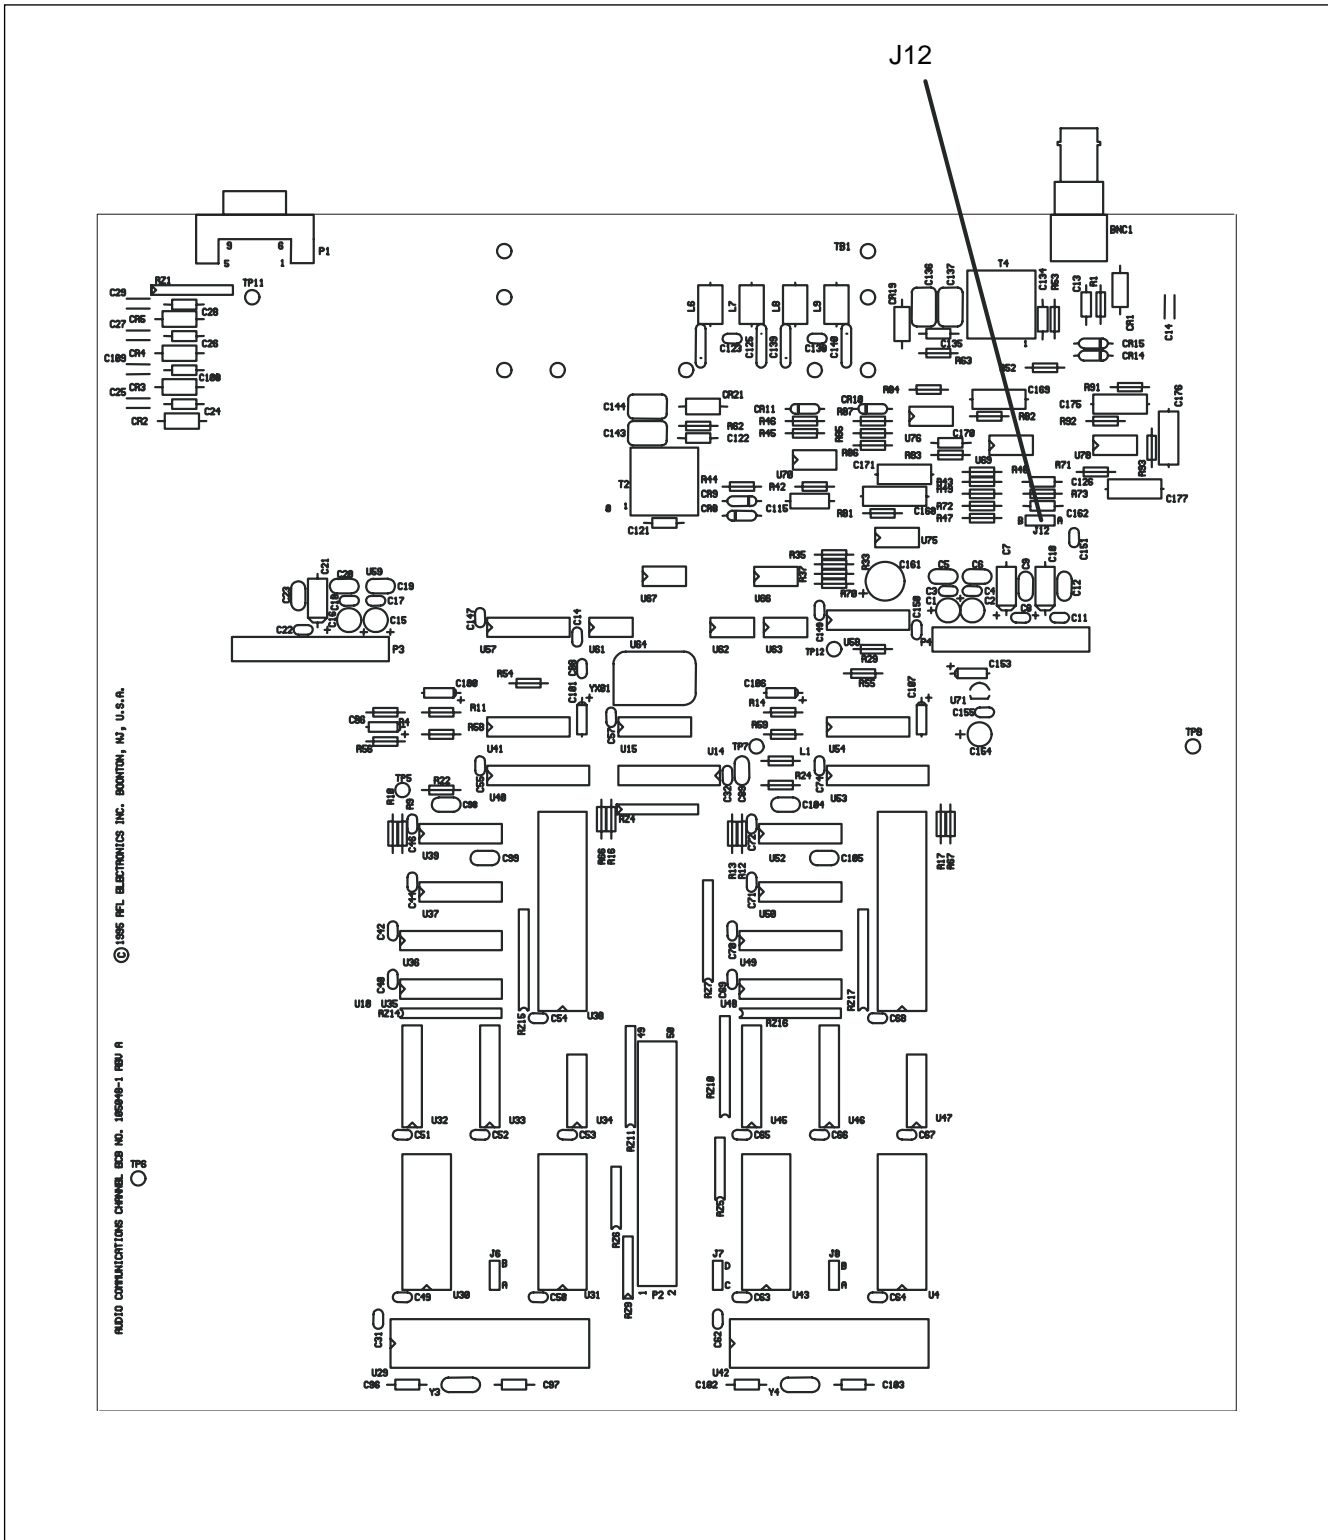
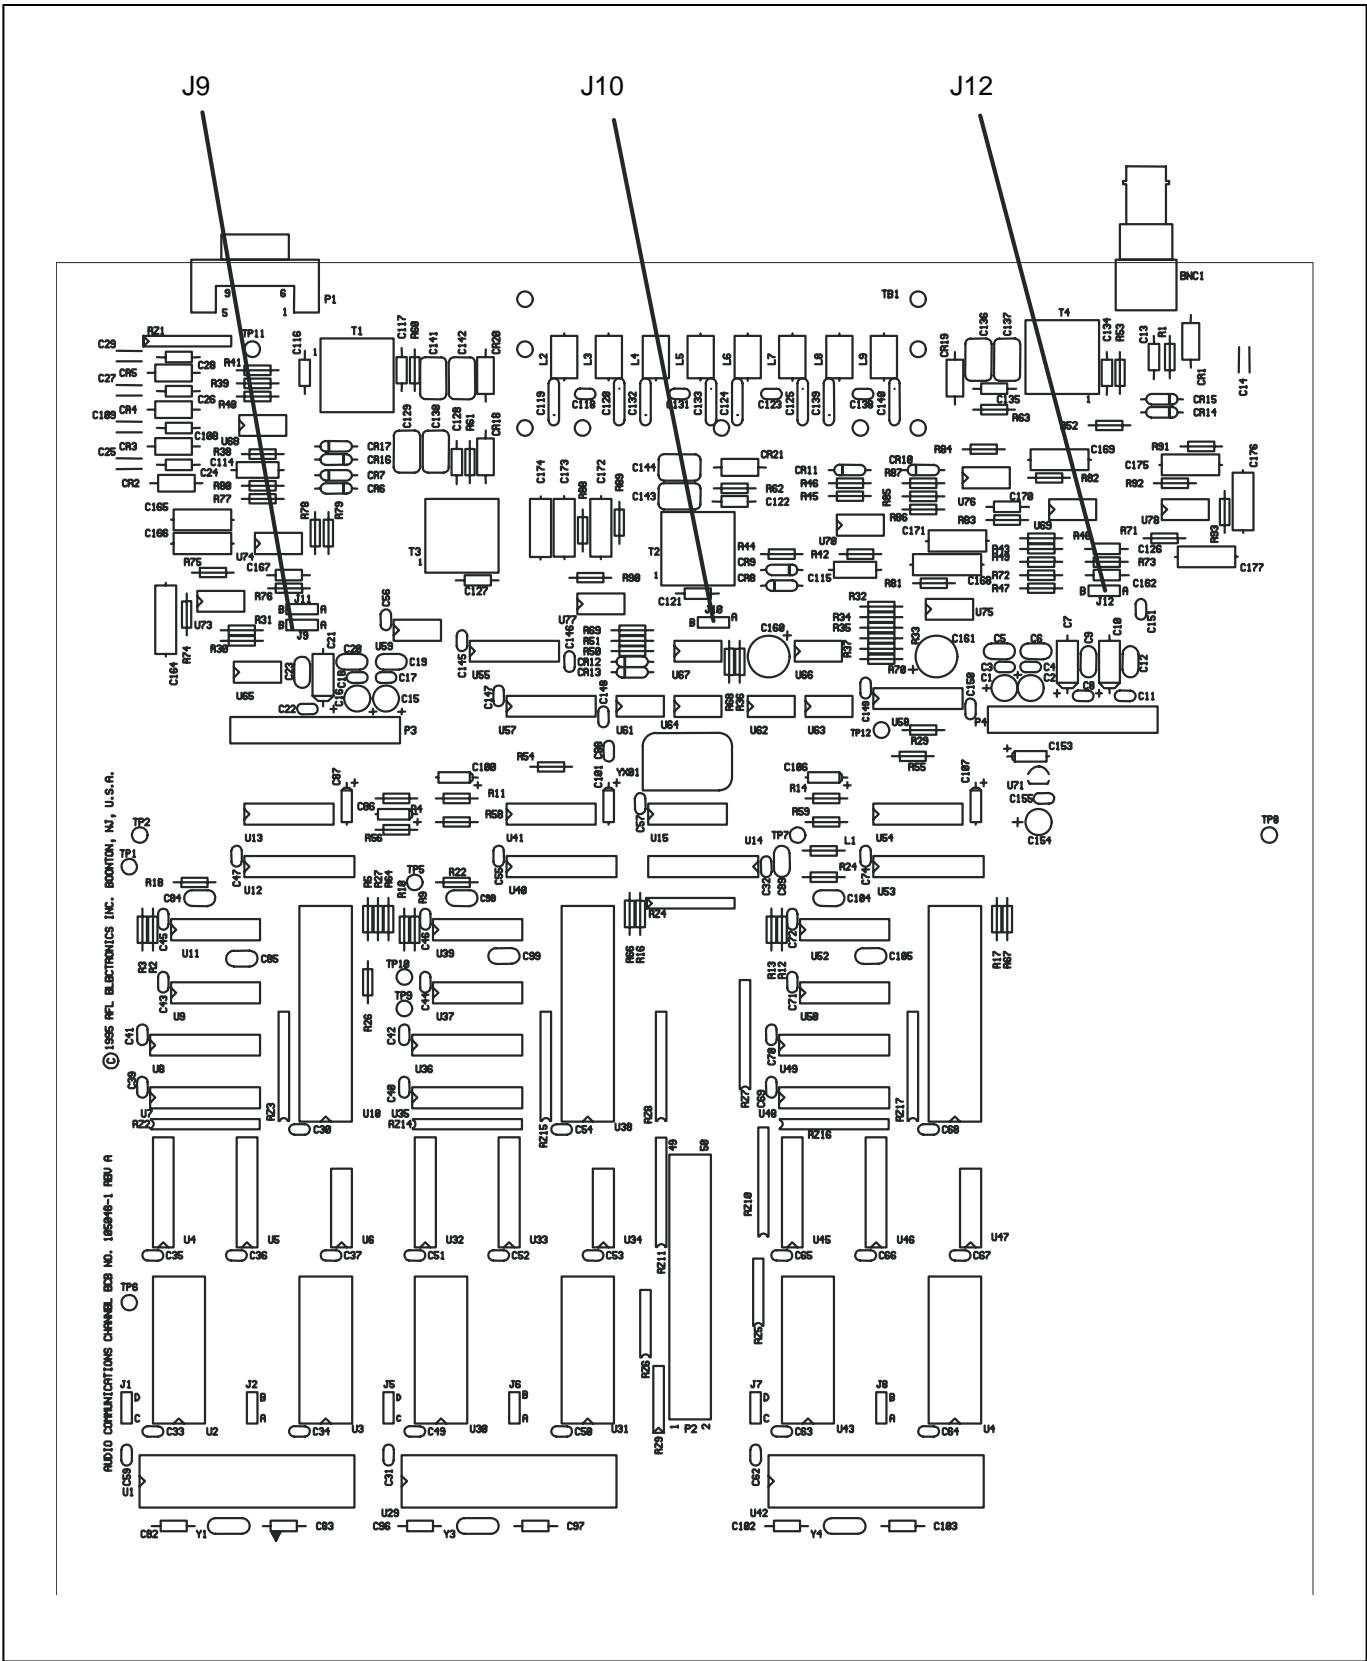
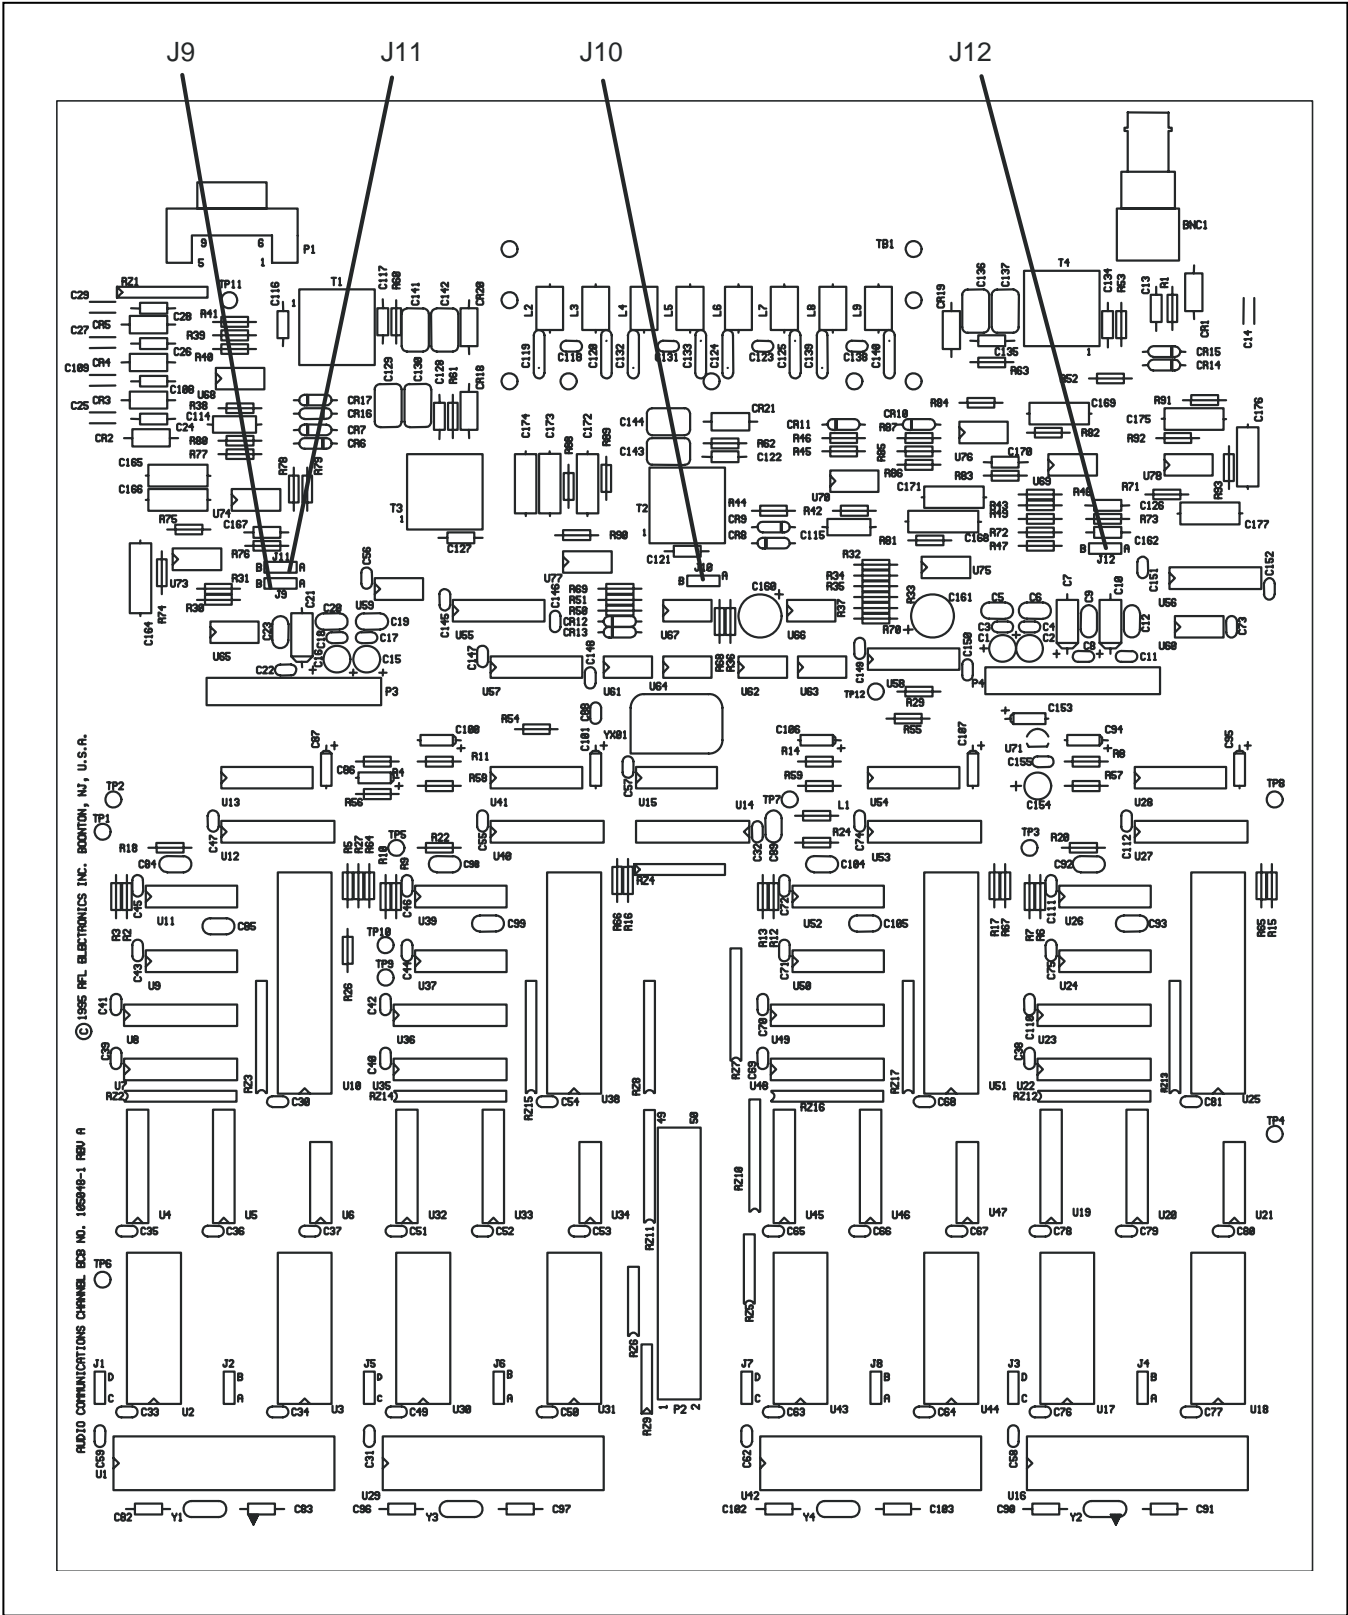

Figure 3-16. Location of jumper on the two-tone narrow band Audio Communications Module
Figure 3-17. Location of jumpers on the three-tone narrow band Audio Communications Module
Figure 3-18. Location of jumpers on the four-tone narrow band Audio Communications Module
There are three versions of the narrow band Audio Communications Module. Each version uses the same basic printed circuit board but only certain portions of each board are populated with components. The two-tone version of the module has one programmable jumper as shown in Figure 3-16. The three-tone version of the module has three programmable jumpers as shown in Figure 3-17. The four-tone version of the module has four programmable jumpers as shown in Figure 3-18. Each version can be supplied with screw type terminal blocks or plug-in compression type terminal blocks. Refer to Table 3-6 for additional information.
* Parameter 061 as shown in Figure 5-1 must be set to match the J10 jumper setting on the Audio Communications module (See Figures 3-17 or 3-18 for location). If jumper J10 is in position A, set Parameter 061 to “A”. If jumper J10 is in position B, set Parameter 061 to “B”. If the audio board has only two tones, jumper J10 cannot be set by the user since it is hard wired at the factory. In this case, Parameter 061 must be set to “B”.